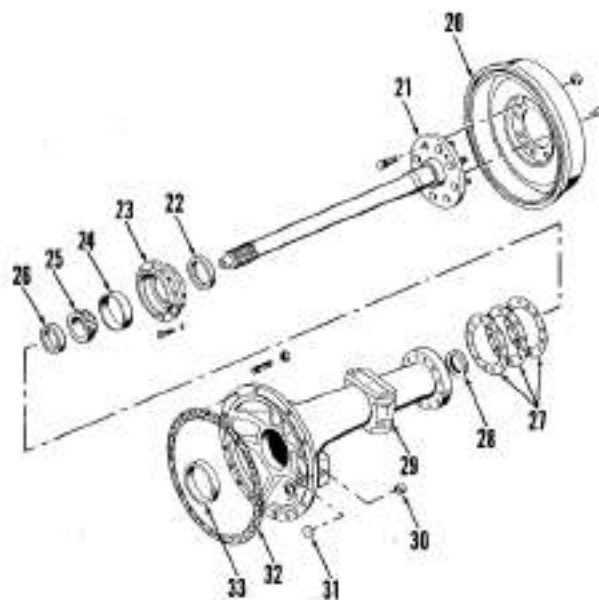

Fig. 159—Exploded view of rear axle and associated parts typical of all tractors except Orchard models and MF250 models.
**165. REMOVE AND REINSTALL.** The axle shafts (21—Fig. 159) can be removed from tractor without removing axle housings (29) if desired. Raise and support rear of tractor, then remove rear wheel and tire. Remove brake drum retaining screws and pull drum from axle flange. Remove cap screws attaching retainer (23) to axle housing, then
**166. OVERHAUL.** The axle retainer (23—Fig. 159) and bearing cone (25) are retained on axle shaft by a shrink-fit steel collar (26). To renew axle shaft, bearing, retainer or outer oil seal (22), first drill the collar, then split collar using a hammer and chisel. Pull the retainer, bearing and collar from axle shaft using a suitable puller or press.